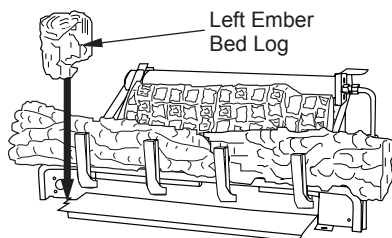

Figure 50 - Installing Left Ember Bed Log
4. Place left ember bed log as shown in Figure 50. The log has groove on one side that sets on the ember bed pan. The back side of this log needs to rest against the front of the base assembly. Make sure the flame from the ember pan does not touch the ember bed log.